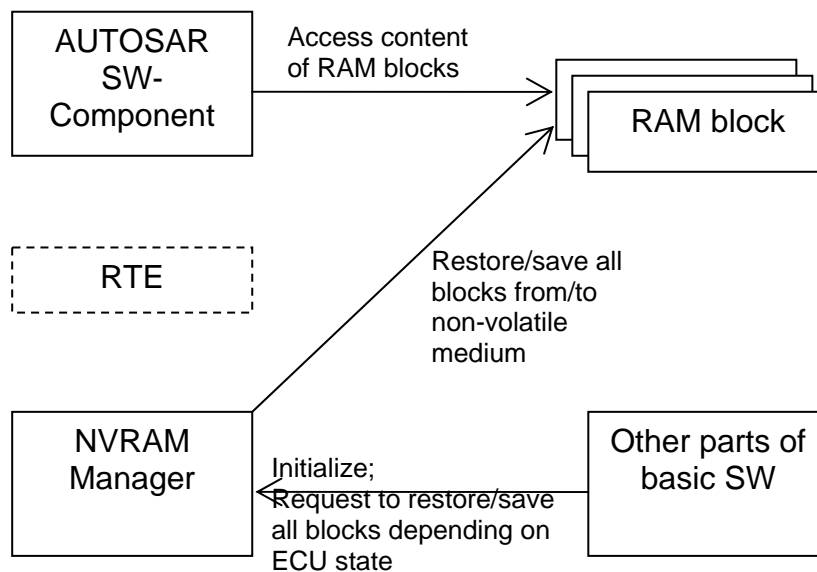

Figure 20: Implicit update/restore of RAM blocks
See Figure 20. This is a summary of use cases in which there is no communication (in the sense of the VFB) between the NvM module and its client. The client holds its transient data in a so-called RAM mirror which is organized in so-called RAM blocks permanently associated with their non-volatile counterparts of the NvM module. Update and restore of the RAM blocks is initiated by the ECU State Manager, the AUTOSAR SW-C accesses its RAM blocks directly. Note that the NvM module does NOT communicate with its client via the RAM blocks because no information is exchanged between the NvM module and its client via the RAM block.
- On the states (of the ECU and/or the client component) in which the RAM blocks can be safely accessed by the client. For this contract, it is essential that the client is informed about its activation/termination or about the relevant ECU states. This communication path has to be handled by the RTE in cooperation with the ECU State Manager (not visible in Figure 20).